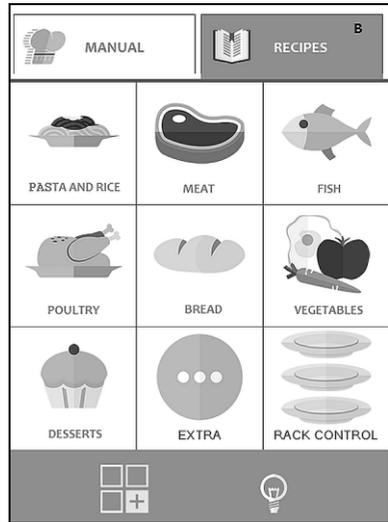

Fig. 27
Open the thermal processing program and press 'Functions' key (20, Fig. 25), select 'Save' and then 'Rename' (Fig. 27). Type in the new name and press Enter.
The appliance is supplied with a series of thermal processing programs pre-loaded in the memory. They are organised by product categories (meat, fish, vegetables, etc.). They may be displayed out of 'Recipes' list (B, Fig. 27)
By pressing 'Recipes' control field (B, Fig. 27) the thermal processing programs are organised by product categories, e.g., meat, fish, vegetables, etc.